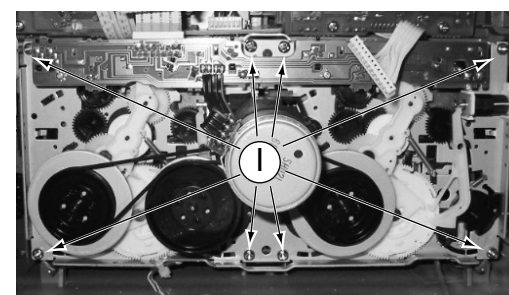

Figure 10
- 5) Loosen 8 screws ' I ' to remove the Cassette Module figure 10.